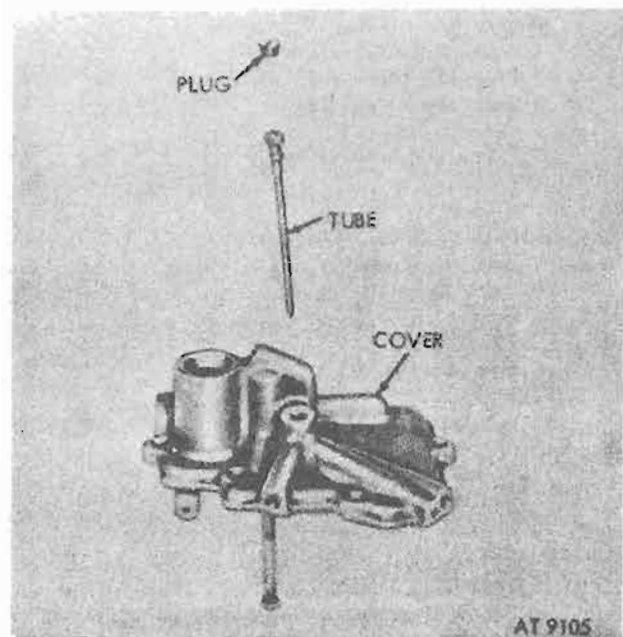
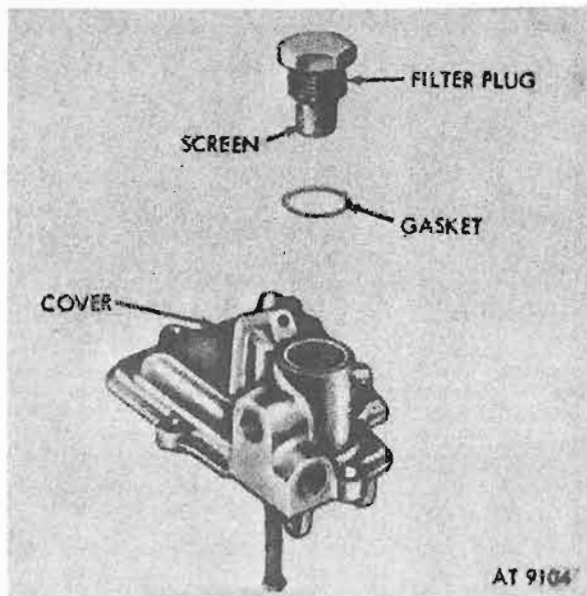

Figure 5-11. Idle tube and plug.
Figure 5-10. Fuel filter screen assembly and gasket.
(4) Remove fuel filter plug, screen, and gasket from cover (fig. 5-10).
(5) Remove idle tube plug and idle tube from cover (fig. 5-11).
Install idle tube and idle tube plug (fig. 5-11). Install fuel filter screen, plug and gasket (fig. 5-10).